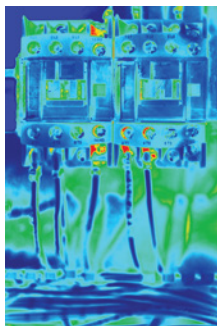

FIGURE 1. Infrared thermography uses infrared radiation from surfaces to make a heat map
Infrared (IR) thermography instruments use a special camera to detect IR electromagnetic radiation that is emitted from equipment surfaces. Higher-temperature areas emit more IR radiation. A lens in the camera focuses the IR radiation onto a thermal sensor. Different pixel configurations in the sensor determine the resolution of the camera. The IR energy is converted into a visual image in which pixels are color-coded according to temperature, and a “heat map” of the object is generated (Figure 1). IR thermography can be used to monitor bearing temperature, identify deteriorating or overloaded circuits, analyze process temperature and detect leaks.